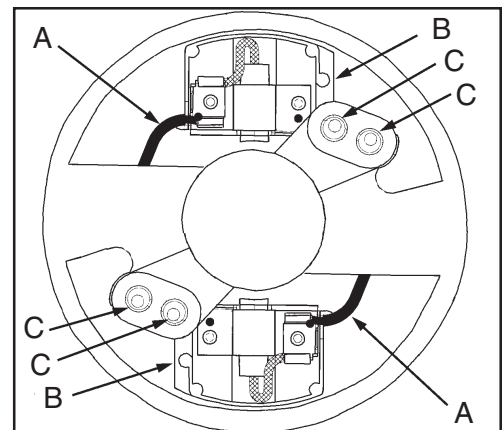

Figure 15
3. To replace the brushes, disconnect the field wire (A) from the brush holder (B). Then remove the two screws and washers (C) securing the holder to the motor housing. See figure 15.